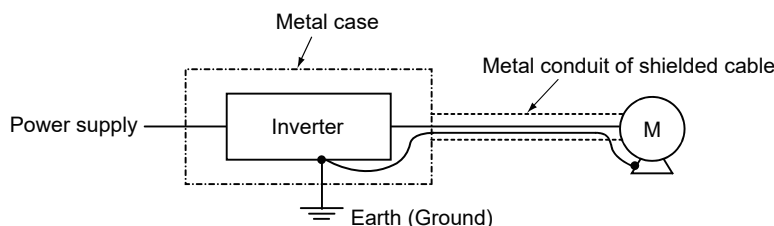

Fig. 7.22 Pipe arrangement for the motor connection cable
- Although the radiated noise can be reduced by inserting the line noise filter FR-BLF or FR-BSF01 to the inverter output side as described previously, it is usually reduced by using a metallic pipe or shielded cable as shown in Fig. 7.22. For effective earthing (grounding) of the motor, connect one cable of the 4-core cable on the inverter side and use a pipe whose thickness is 2 mm or more.